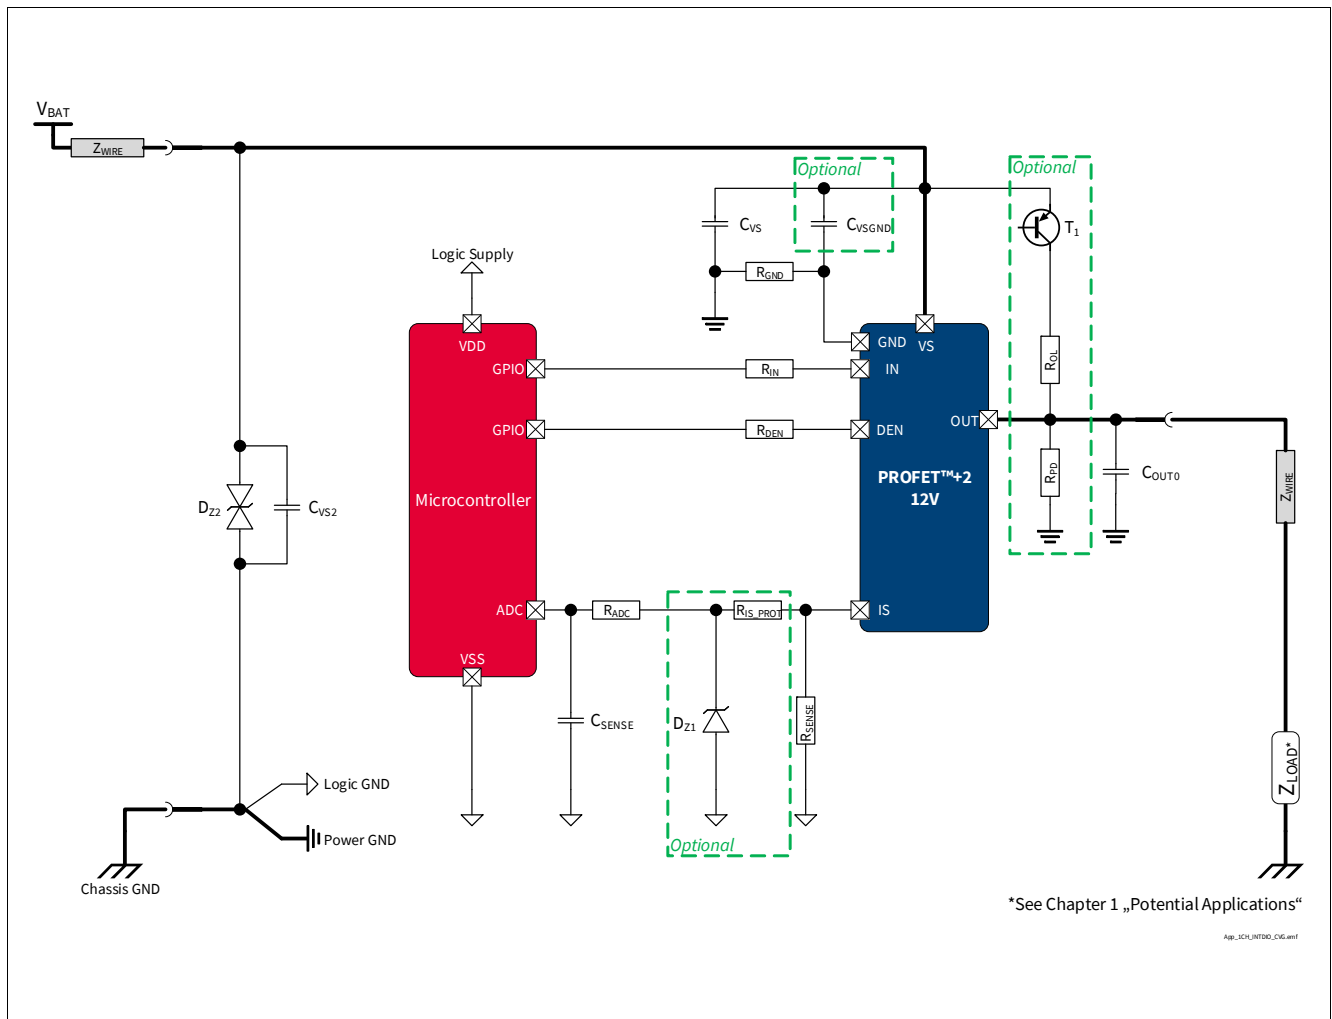

Figure 37 BTS7008-1EPP Application Diagram
1.04, 2019-10-15	<p>P_8.7.21.1, P_8.7.21.7, P_8.7.21.8 updated (added in Note or Test Condition: link to Figure 24)</p> <p>P_7.5.20.5 updated (added in Note or Test Condition: see Figure 18)</p> <p>P_7.5.20.12 updated (added in Note or Test Condition: see Figure 20; deleted unnecessary space in Symbol: dVOUT / dt → dVOUT / dt)</p> <p>P_8.7.21.6 updated (added in Note or Test Condition: see Figure 25)</p> <p>P_9.7.20.1 updated (added in Note or Test Condition: see Figure 32)</p> <p>Figure 1, Figure 37 updated</p> <p>P_4.3.0.7 added</p> <p>Table 22 updated</p> <p>Chapter 5.1 updated (added: see Chapter 10 for the complete application setup overview)</p> <p>Chapter 9.2 updated ($2\text{ V} \rightarrow V_{\text{DS(OFF)}}$)</p> <p>General: updated (ReverSave™ → ReverseON)</p>
1.01, 2018-06-14	<p>Page numbering corrected</p> <p>Figure Application Diagram, Figure 29, Figure 37 updated</p>